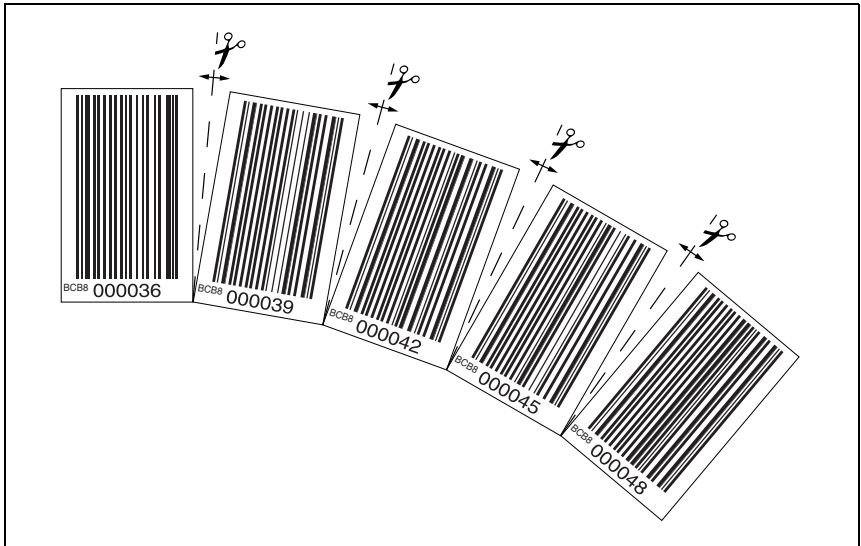

Figure 6.5: Preparing the bar code tape for use in vertical curves
- ↗ Affix the BCB along the curve like a fan ((see figure 6.5)).